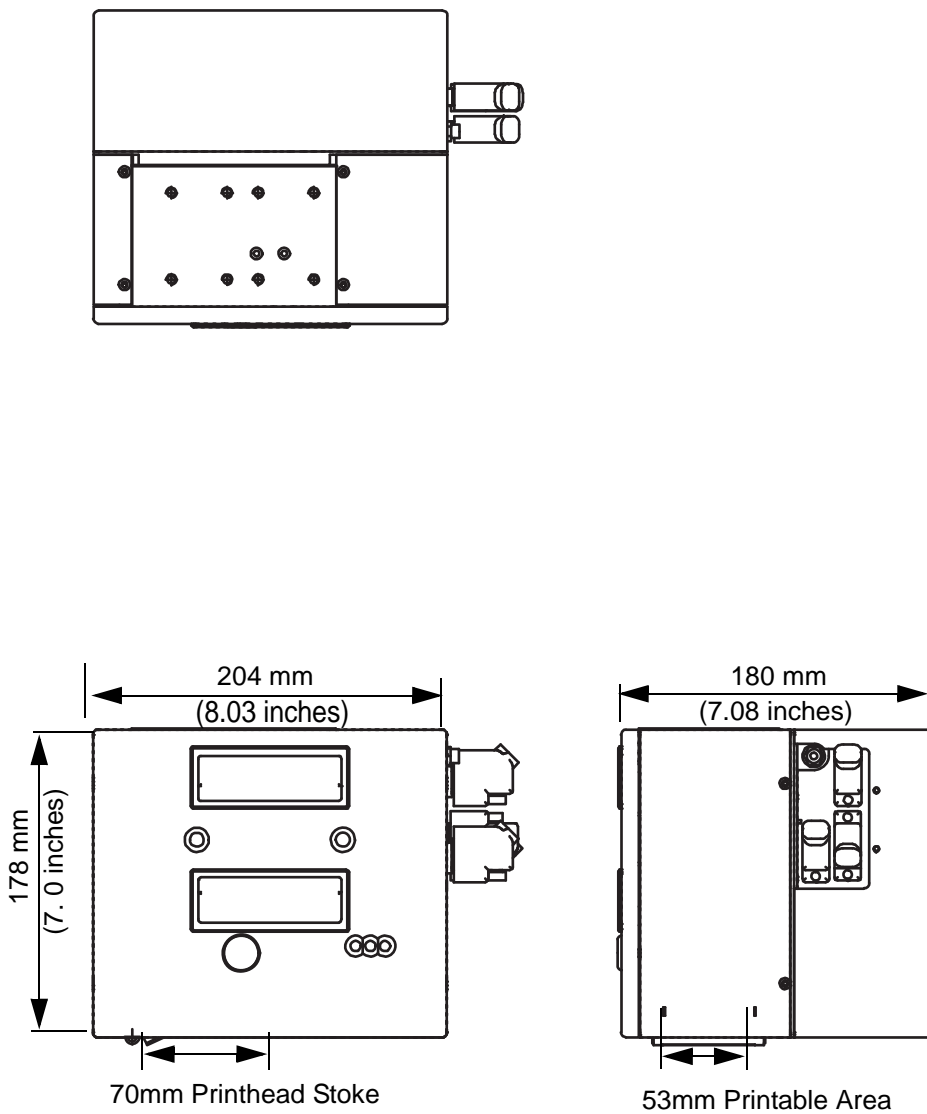

Figure 7-1: DataFlex Plus 53 mm RH Printer Dimensions
Figure 7-1 shows the dimensions of the DataFlex Plus 53 mm (RH) printer.